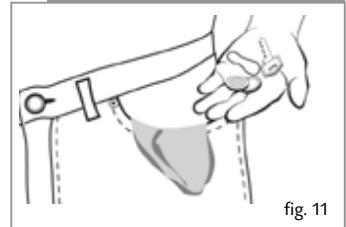

fig. 11
- Before placing the clothes in the drum, make sure all the pockets are empty (Figure 11). Any small objects may block the drain pump.